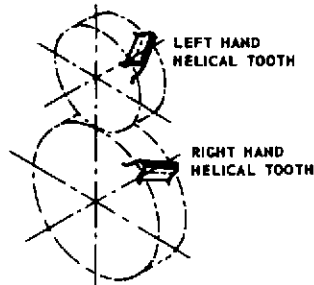

FIGURE 1.3 — PARALLEL HELICAL GEARS
- 1.07** A **Helical Gear** is cylindrical in form and has helical teeth. (Figure 1.3)
- 1.08** **Parallel Helical Gears** operate on parallel axes and, where both are external, the helices are of opposite hand. (Figure 1.3)